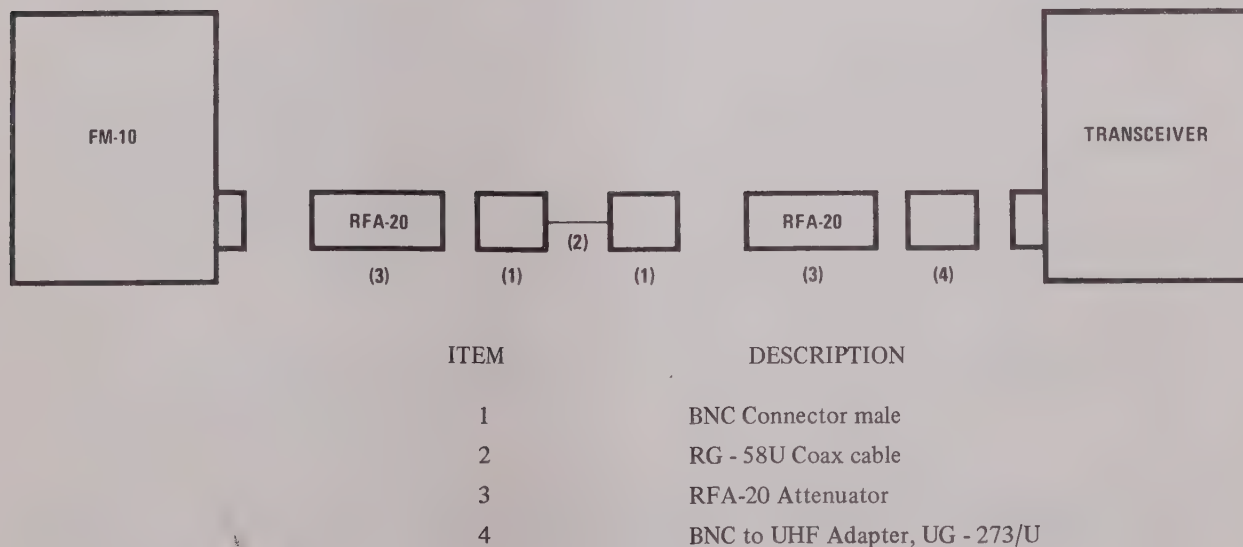

Figure 2-2. Connections for Signal Generator Mode, Using Two RFA-20s.
- c. For readout in the range 0.05 to 5 microvolts, connect as shown in figure 2-2. The RF OUTPUT control is calibrated for use with two RFA-20 attenuators in circuit. For readout in the 5 - 500 microvolt range, remove the attenuators and multiply scale reading X 100.